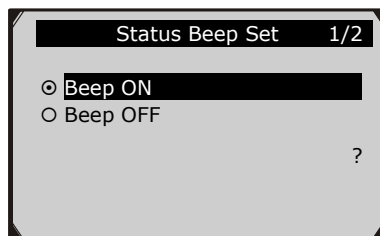

Figure 3.8
- 2) From **Status Beep Set** menu, use the **UP/DOWN** scroll button to select **Beep ON** or **Beep OFF** to turn on/off the beep. (Figure 3.8)